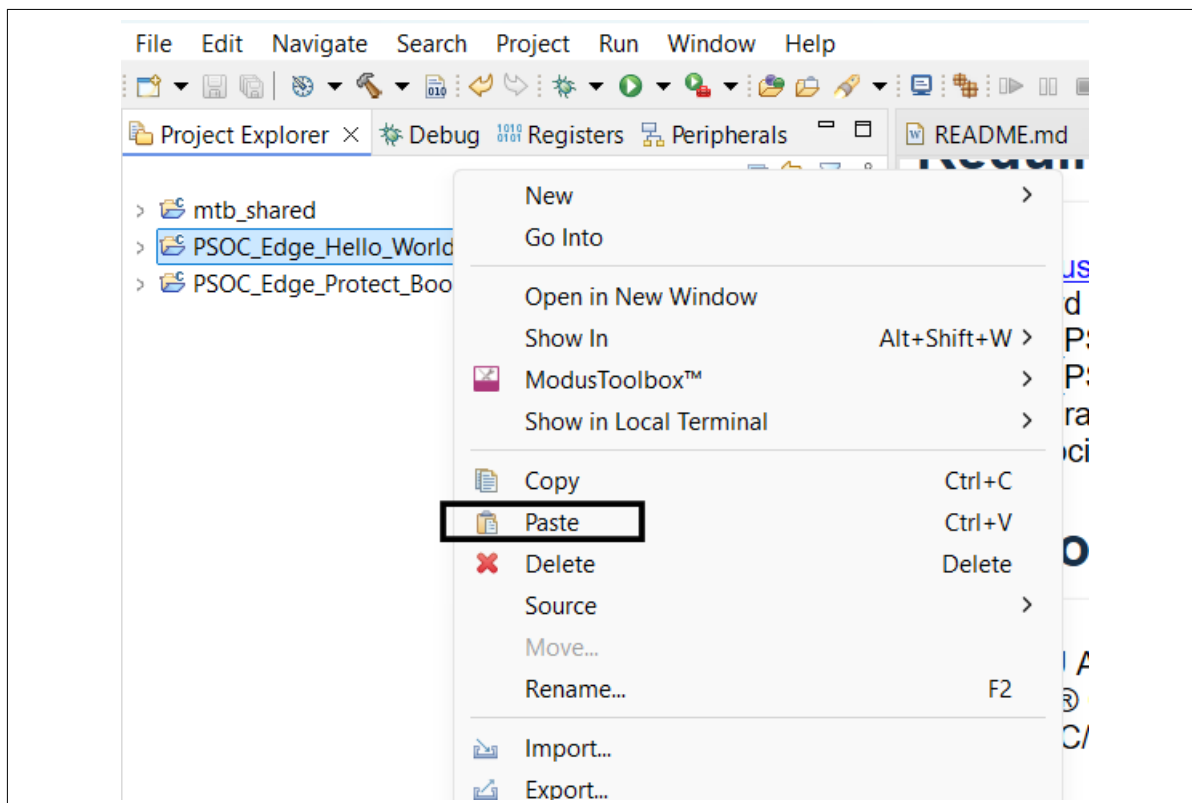

Figure 7 Paste the proj_bootloader to the application folder
3. Paste it to the root of **Hello world** as shown in Figure 7